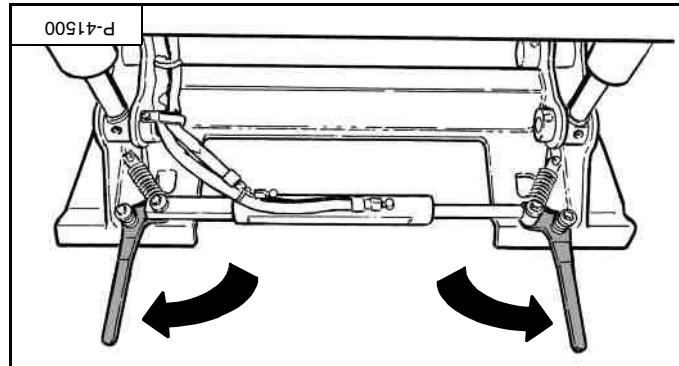
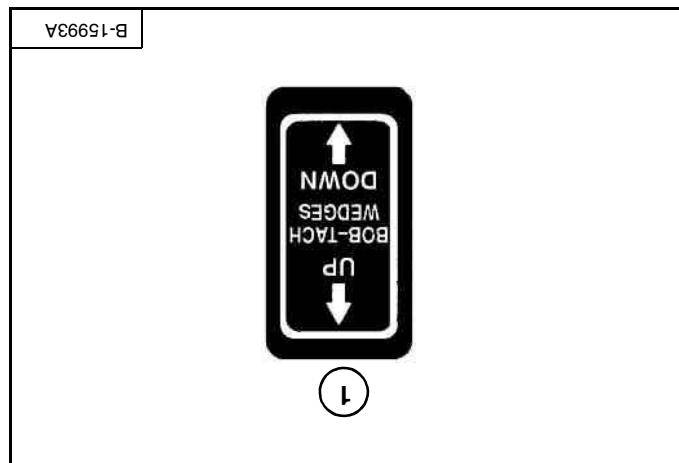

Figure 28
Figure 27
Push and hold the BOB-TACH "WEDGES UP" switch (item 1) [Figure 27] until the levers are fully raised (wedges fully raised) [Figure 28].